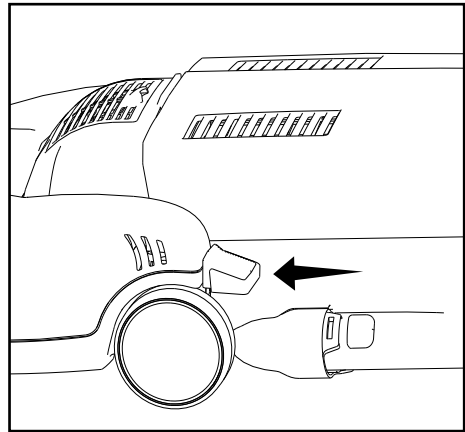

Fig. 2
- Press the Handle Release Pedal a second time to enable the vacuum to lay flat on the floor (Fig. 2).